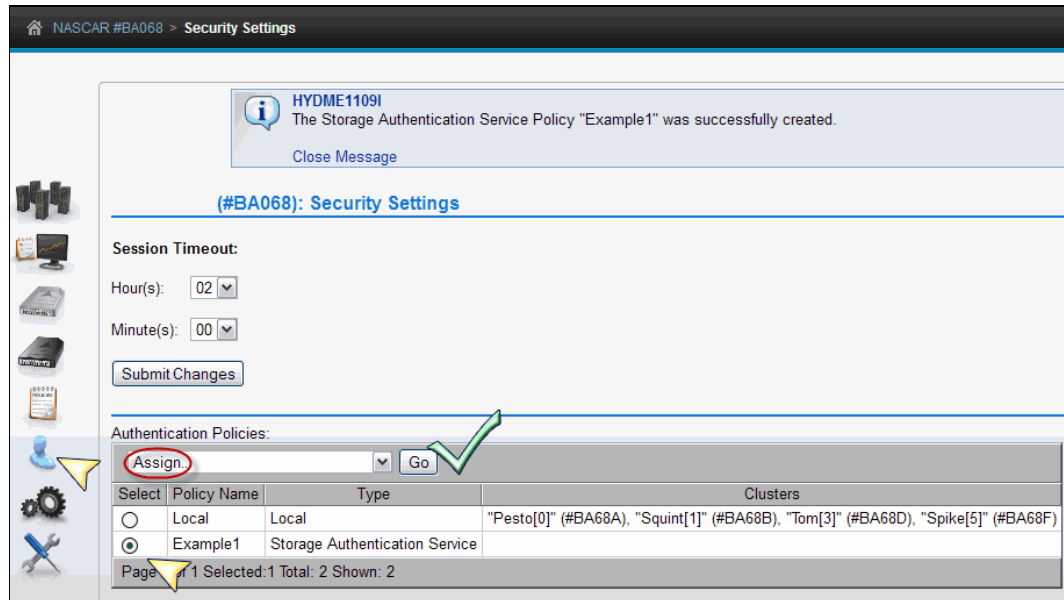

Figure 9-107 Assign Storage Authentication Service Policy to grid resources
2. In the Authentication Policies table, select **Assign** from the Select Action menu as shown in Figure 9-107.